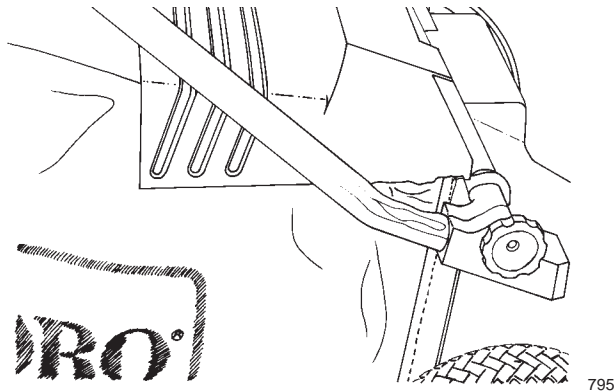

Figure 12
2. Raise discharge door, slide bag ramp attached to bag into discharge opening, and hook bag frame onto mounting bracket (Fig. 11). Allow discharge door to rest on top of bag (Fig. 12).